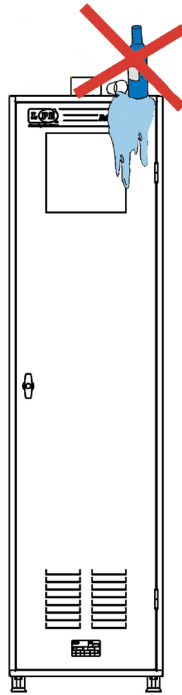

fig. 2.8
13. Do not place or rest containers of liquids on top of the cabinet. (fig. 2.8).